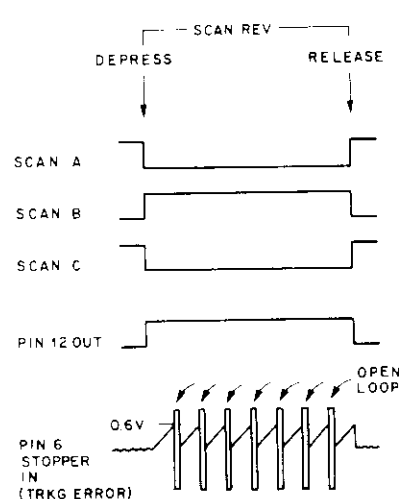

Fig. 14 Scanning operation timing chart
The time chart for the scanning operation is outlined in Fig. 14. When the SCAN REV key is pressed, SCAN A (L), SCAN B (H) and SCAN C (L) commands from the CONT board are applied to the UM4004, resulting in switch 2 being turned on by the internal scan logic, and the slider servo thus being made "open loop". At the same time, a  $-3.3\text{V}$  output voltage appears at pin 12. This voltage is inverted and amplified by AMP4, resulting in the slider being shifted in the reverse direction.